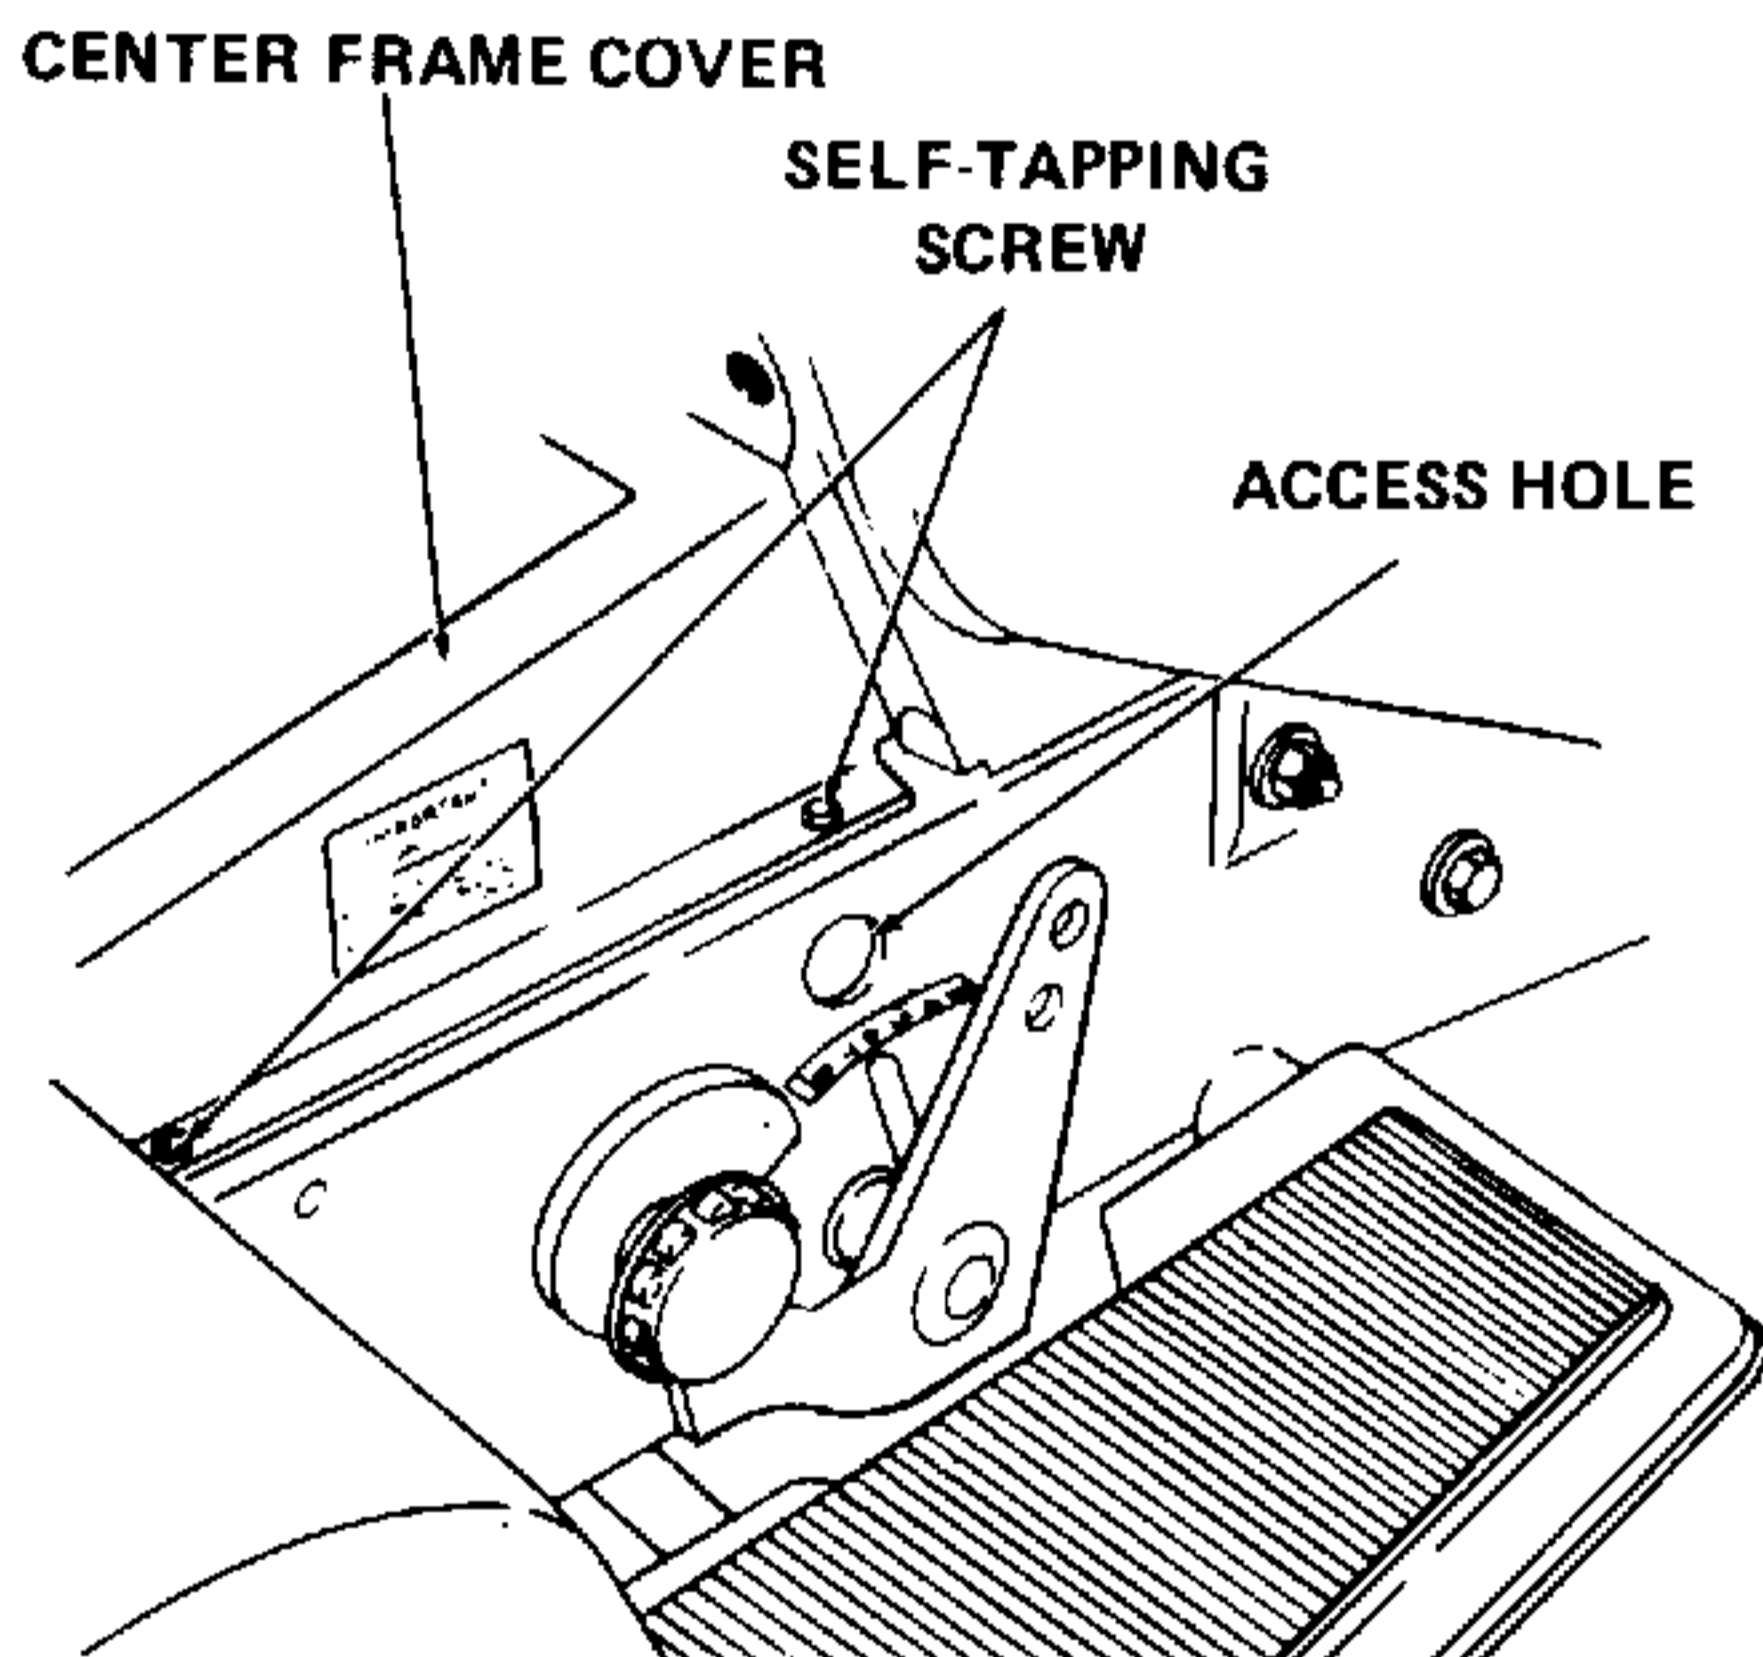

Figure 7-42. Checking Access Hole.
- Lower tractor lift to full down position. Check access hole to be sure headed pin is visible and positioned for later removal. Refer to Figure 7-42.
- Remove center frame cover by removing four self-tapping hex screws. Refer to Figure 7-42.